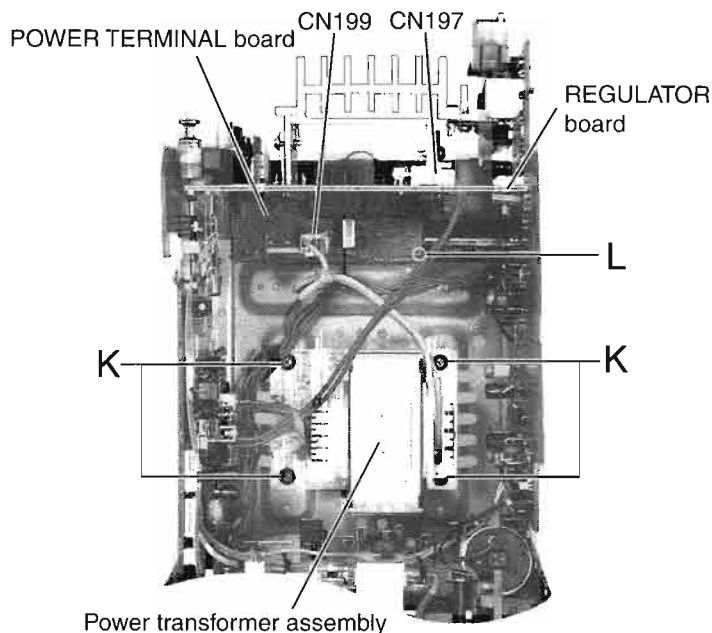

Fig.13
■ Power transformer assembly (Refer to Fig. 13.)
■ POWER TERMINAL board (Refer to Fig. 13.)